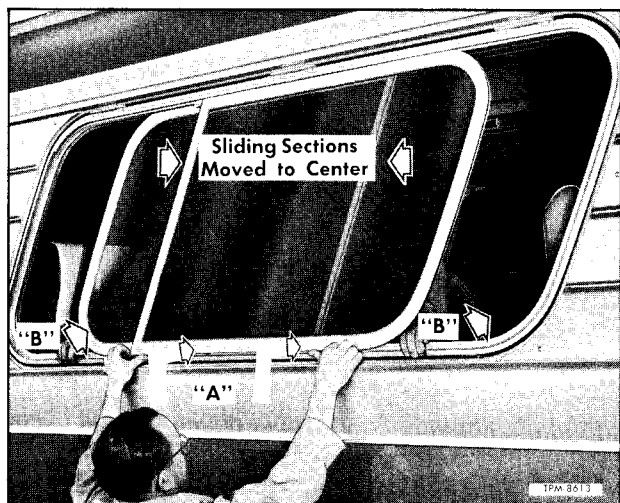

Figure 9—Installing Long Side Window
3. Referring to figure 9, slide front and rear sections to center, raise bottom of sash at point "A," and then let weight of window assembly rest on body sill. Inside of coach, at points "B," pull inward evenly to installed position.